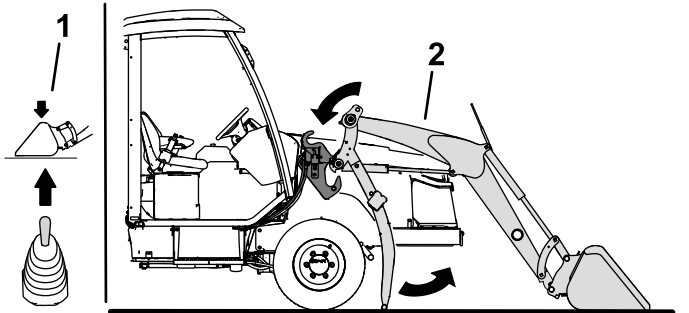

Figure 53
6. Start the engine and use the loader joystick to lower the loader arms into the loader-frame mounts (Figure 53).